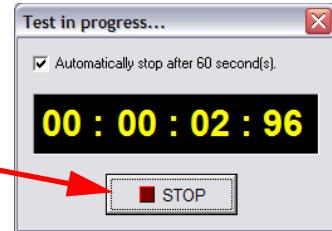

Figure 4-9: Click the Test **STOP** Button After Setting Your Desired Pump Pressure
16. Click the **Stop** button (Figure 4-9) to halt the test.